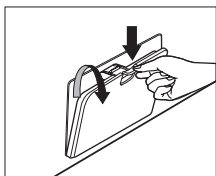

Fig. 12
- Open the service flap. (bottom right corner) (Fig. 12)